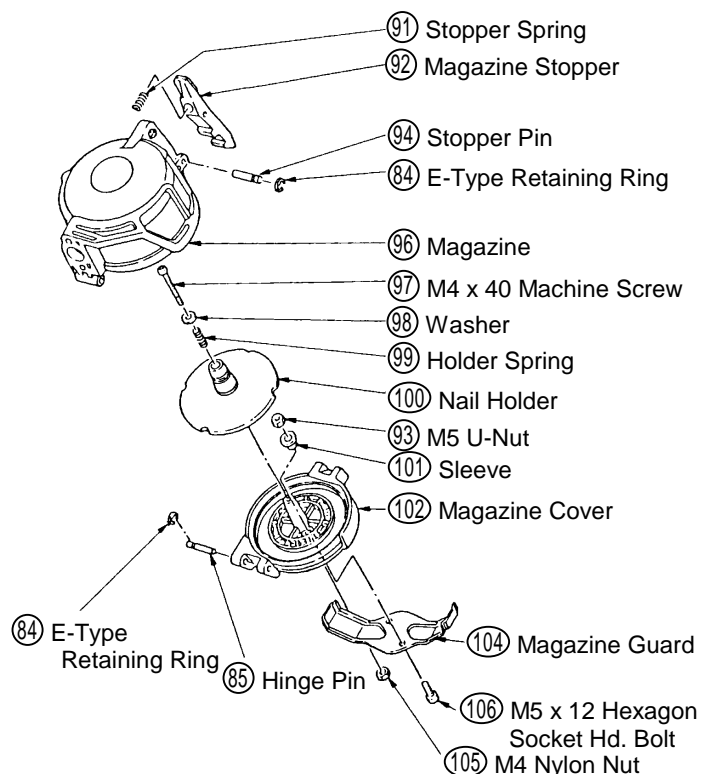

Fig. 19
1-4. Disassembly and Reassembly of the Magazine Section: (Refer to Fig. 19)
- Carefully align the groove on the Hinge Pin (85), and mount the 3 mm E-Type Retaining Ring (84). Confirm that it is properly assembled.
- Be very careful not to lose the 3 mm E-Type Retaining Ring (84).
(3) Nail Holder (100), Magazine Guard (104) and related parts; (Refer to Fig. 19)
- Confirm that the Sleeve (101), is properly inserted into the hole in the Magazine Cover (102).
- Firmly support the M5 U-Nuts (93) with the 8 mm Spanner, and tighten the M5 x 12 Hexagon Socket Hd. Bolts (106) to rated torque: 20 ± 3 kg-cm (1.45 ± 0.22 ft-lbs).
- Carefully ensure that the M4 x 40 Machine Screw (97) is tightened to rated torque of 5 - 10 kg-cm (0.36 - 0.72 ft-lbs).
(4) Magazine Stopper (92): (Refer to Fig. 19)